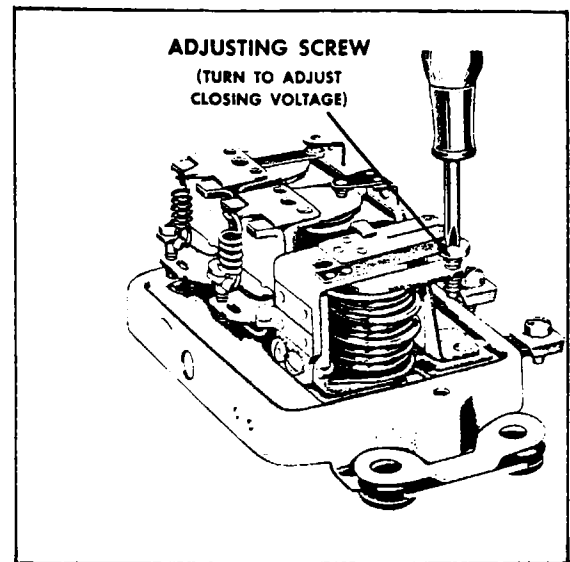

Figure 11-15. Adjustment of Cutout Relay Closing Voltage
d. Adjust closing voltage by turning adjusting screw. (Refer to Figure 11-15.) Turn screw clockwise to increase setting and counterclockwise to decrease setting.
- (a) Connect ammeter into charging circuit as in Figure 11-15.